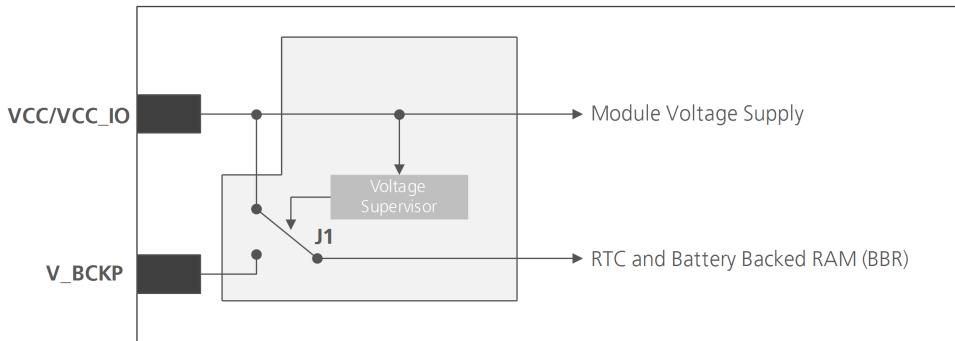

Figure 2: Backup battery and voltage (for exact pin orientation, see data sheet)
- As long as the u-blox 7 module is supplied to **VCC** and **VCC_IO**, the backup battery is disconnected from the RTC and the BBR to avoid unnecessary battery drain (see Figure 2). In this case, **VCC** supplies power to the RTC and BBR.